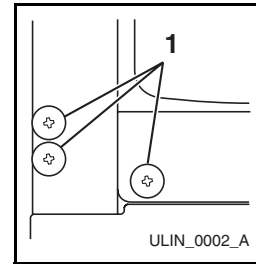

Figure 18
2. Remove plastic screw plugs (three each, top and bottom) (**Figure 18, 1**) from new hinge location. Do not discard.